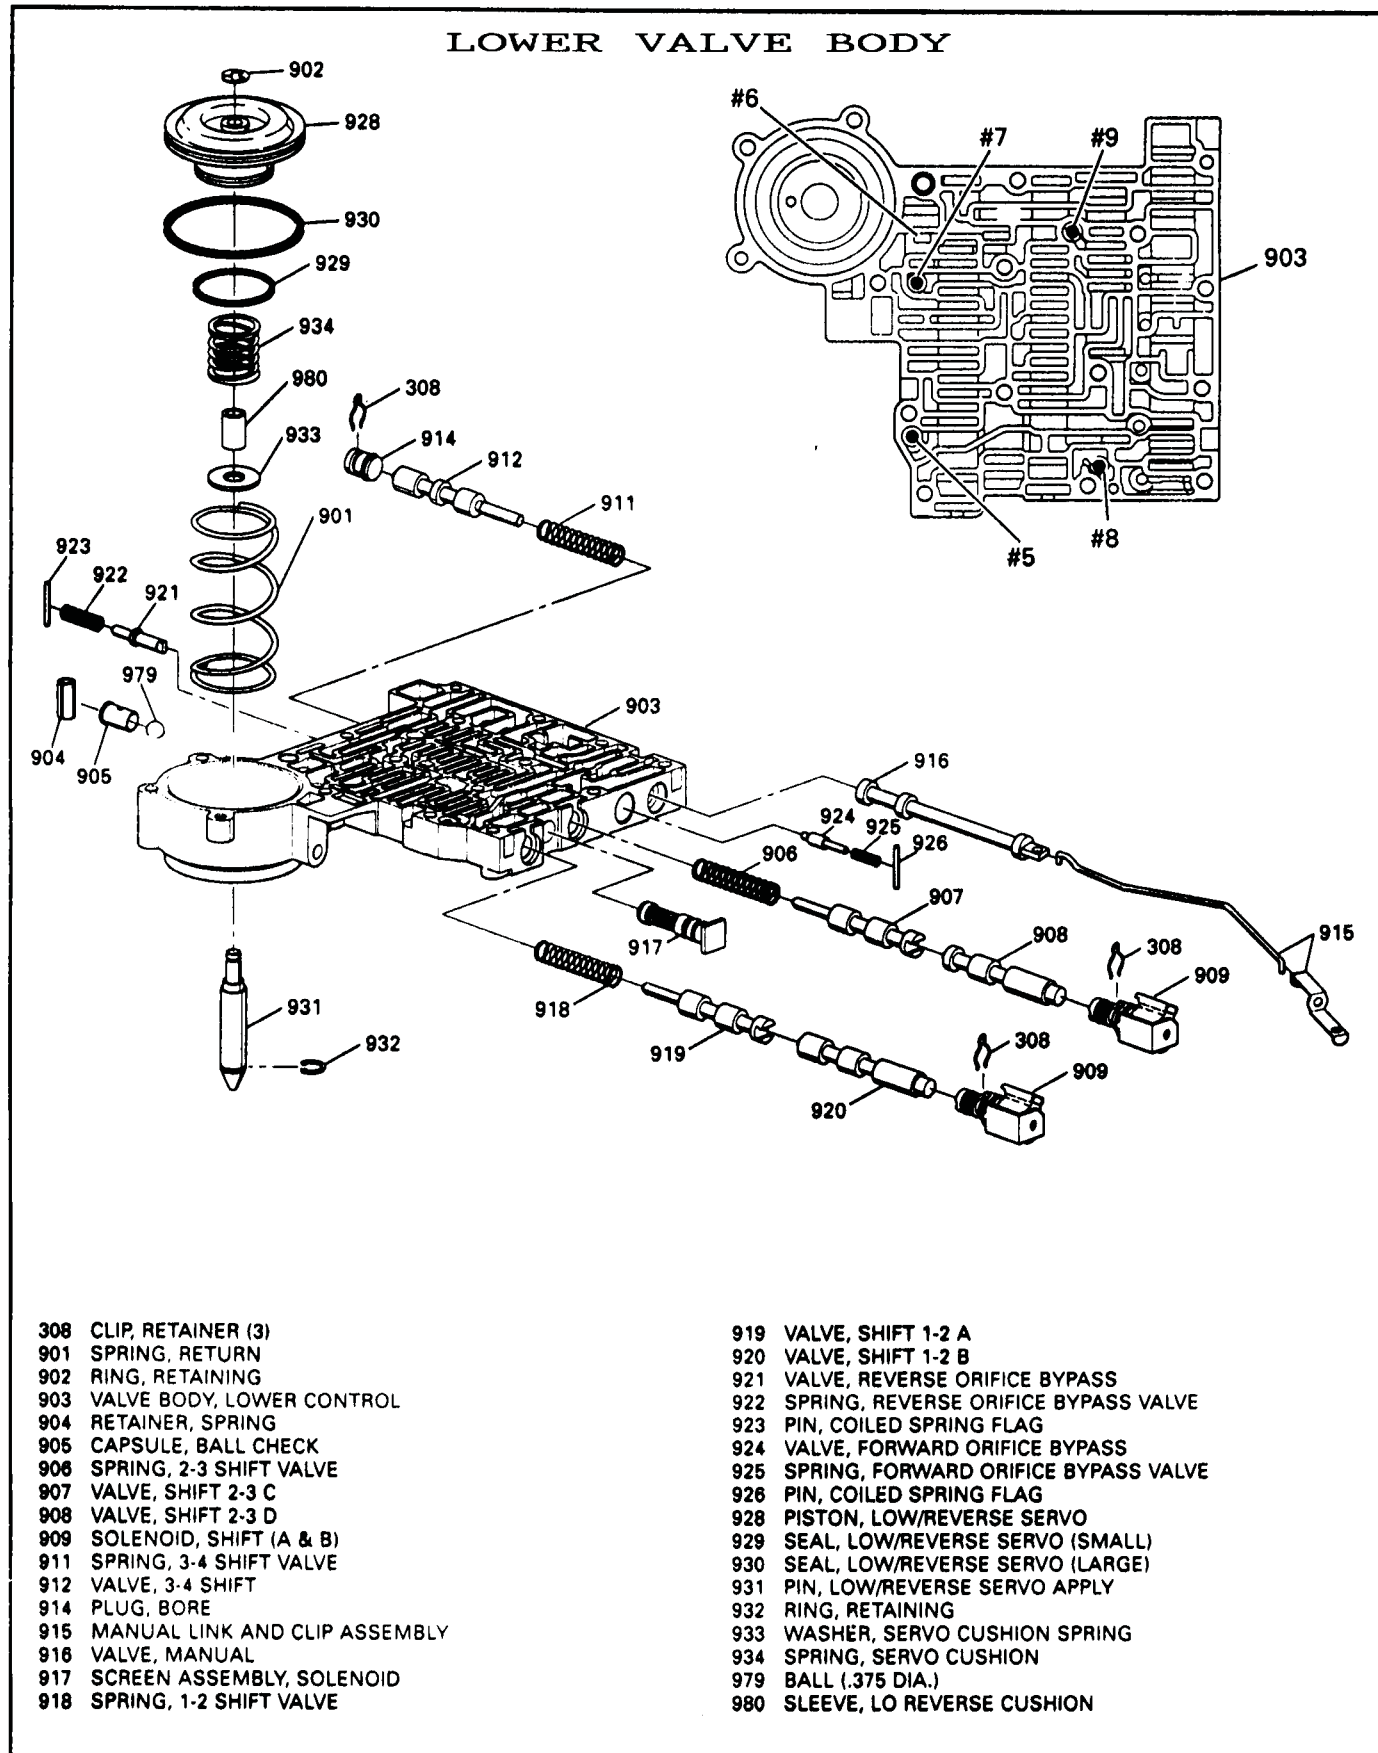

Figure 81
10. Use the illustrations in Figure 81, to reassemble the Lower Valve Body.
11. Ensure that all springs, valves, and bushings are in proper order. (See Figure 81).